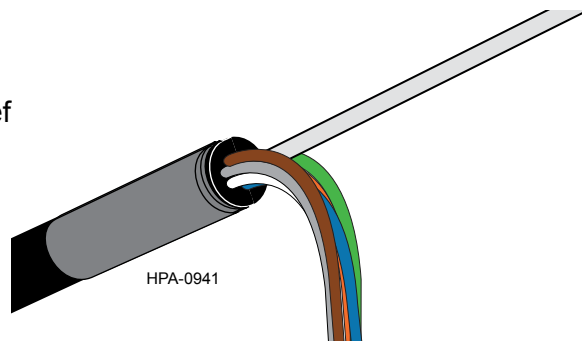

Figure 9
Step 13: Unwind and separate the buffer tubes from the central member. Cut the central member to the appropriate length for strain-relief in the hardware (Figure 9).
Step 14: For cable strain-relief hardware which clamps onto the jacket, place three layers of vinyl tape over the area where clamps make contact with the jacket (Figure 9).